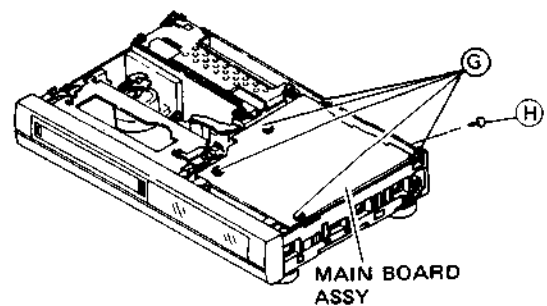

Fig. 1-1-4 Main board
2. Refer to Fig. 1-1-4 and take out 5 screws (G) and 1 screw (H) from main board assembly.